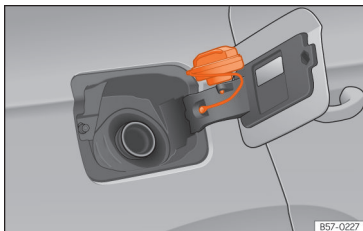

Fig. 183 Fuel tank flap with tank cap attached.
- Place it in the space on the hinge of the open flap »» Fig. 183.